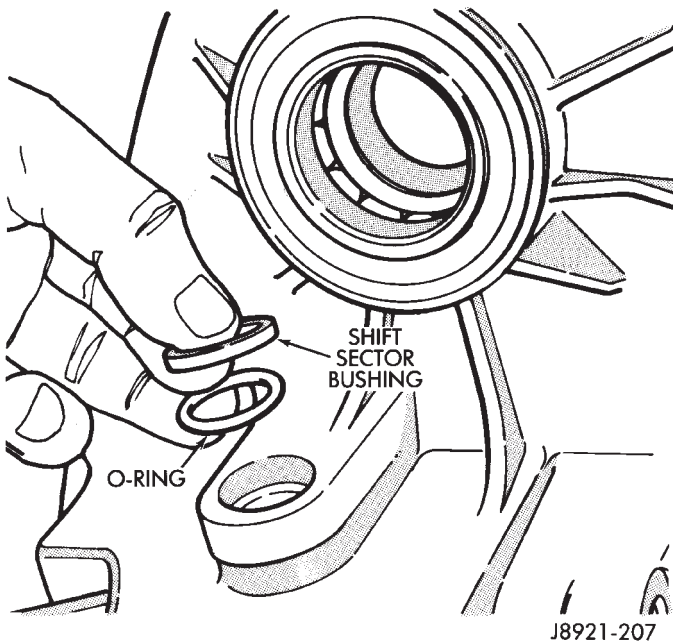
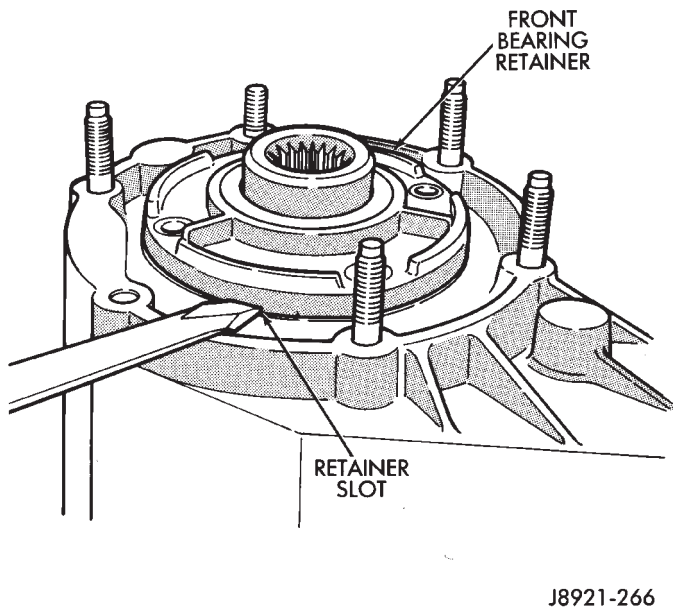

Fig. 27 Removing Sector Bushing And O-Ring
Fig. 28 Removing Front Bearing Retainer
(40) Remove shift sector bushing and O-ring (Fig. 27).
(41) Remove front bearing retainer bolts.
(42) Remove front bearing retainer. Carefully pry retainer loose with screwdriver (Fig. 28). Position screwdriver in slots cast into retainer.